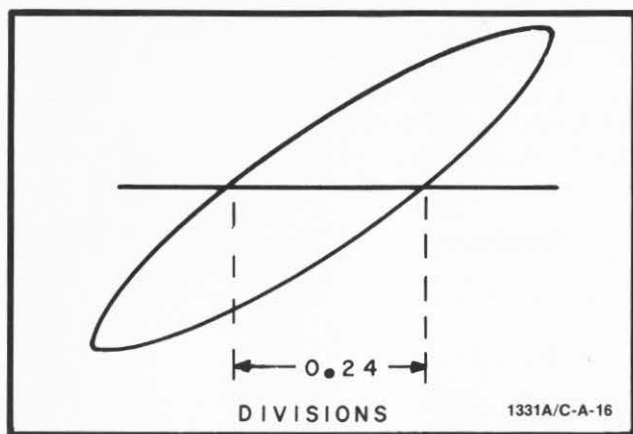

Figure 5-1. Phase Shift Trace
b. Apply 500 kHz, 1V p-p sine wave from output of sine wave generator to both X INPUT and Y INPUT. Separation of resultant ellipse at center screen shall not exceed 1.2 minor div (see figure 5-1).